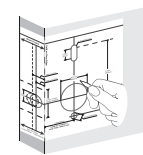

Figure 2b
- Mark center hole and other 2 holes on door face through guidance on template for 2.36" (60mm) or 2.76" (70mm) (Figure 2b) backset.